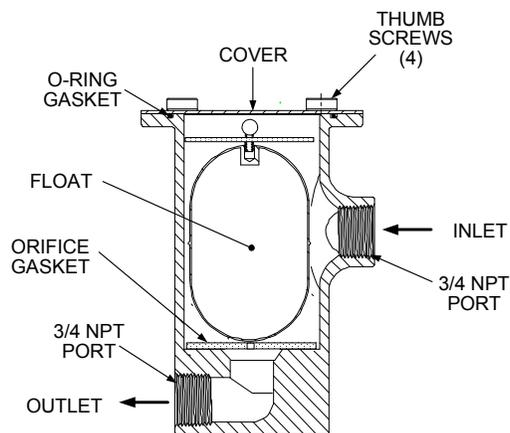

Figure 10. Condensate Trap Part No. 24060
1. Remove the connections on the inlet and outlet sides of the condensate trap shown in Figure 10.
2. Refer to Figure 10 and loosen the four (4) thumbscrews securing the cover on the condensate trap. Remove the cover.